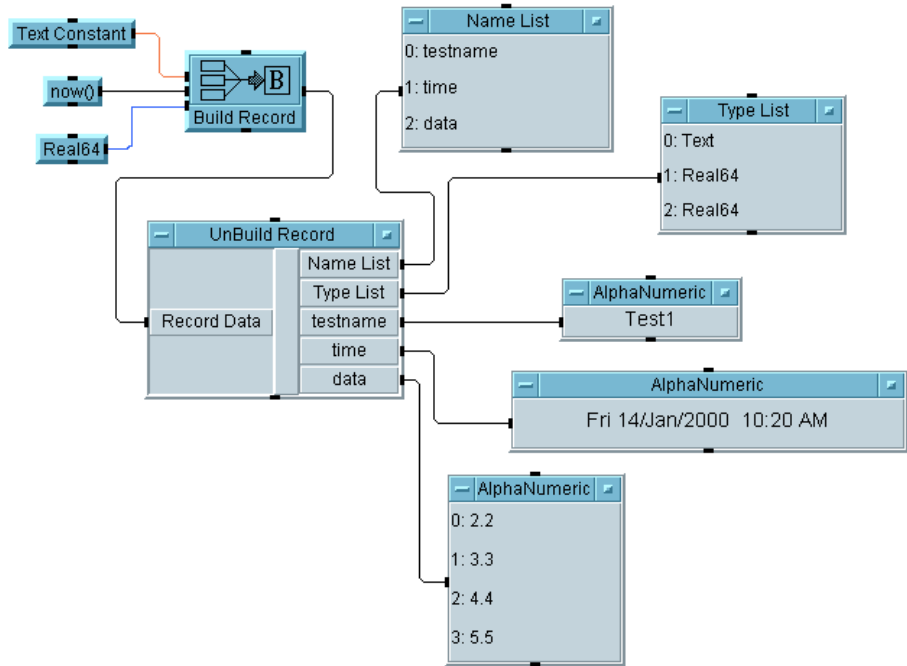

Figure 142 Using the UnBuild Record Object
- 4** Run the program and save it as **unbuild.vee**. It should look like Figure 142.